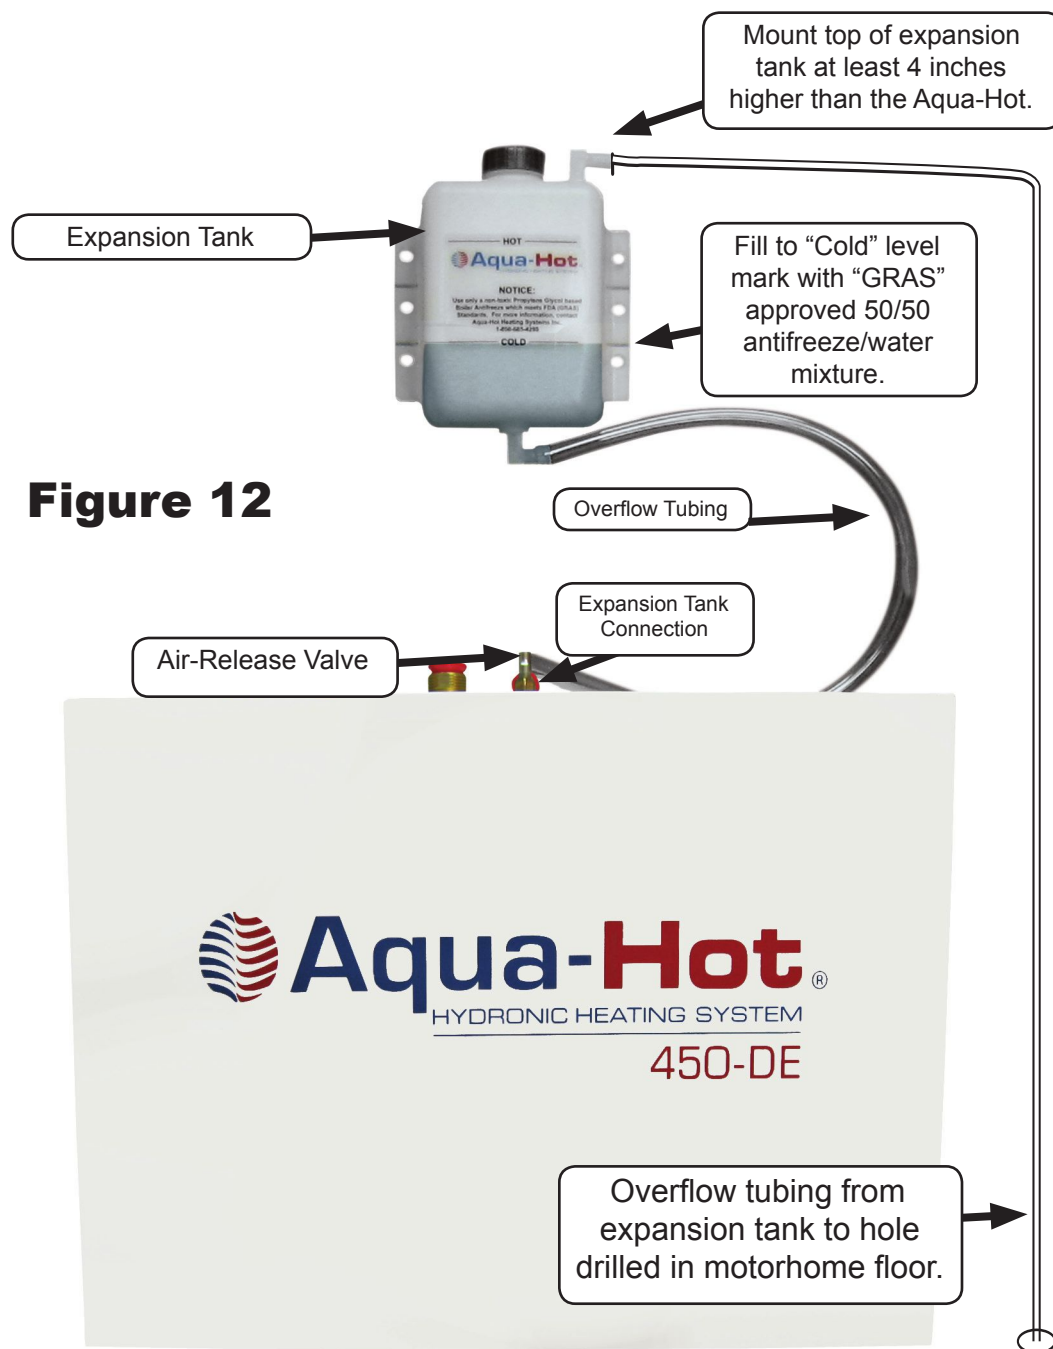

Figure 12
NOTE: The top of the expansion tank should always be mounted at least 4 inches higher than the highest point on the Aqua-Hot. Reference Figure 12.
1. Mount the expansion tank as illustrated in Figure 12.
2. Connect and clamp the overflow tubing from the expansion tank to the Aqua-Hot's expansion tank connection. Reference Figure 12.